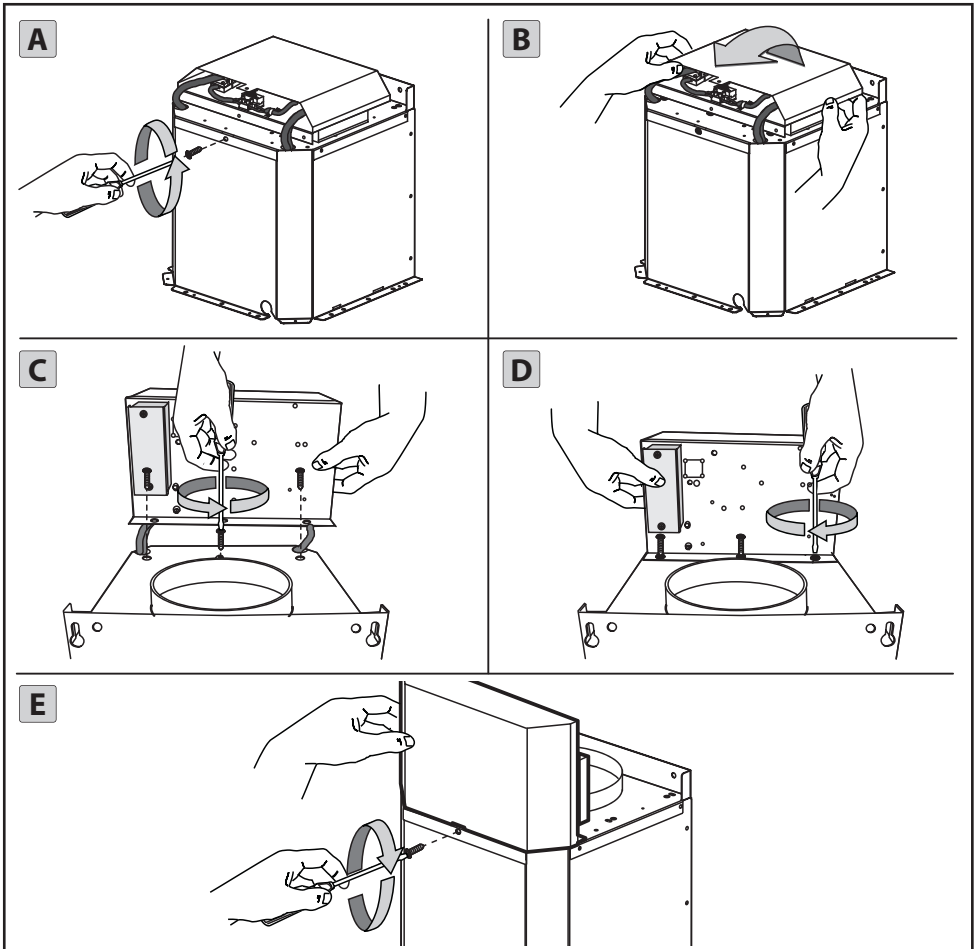

Fig.1
■ **WARNING - TO REDUCE THE RISK OF FIRE, ELECTRIC SHOCK, OR INJURY TO PERSONS, OBSERVE THE FOLLOWING: Before making electrical connections to power supply, the electrical box must be secured in place as indicated in Fig.1.**
• **Before installing the appliance fix the electrical box as indicated in Fig.1:**